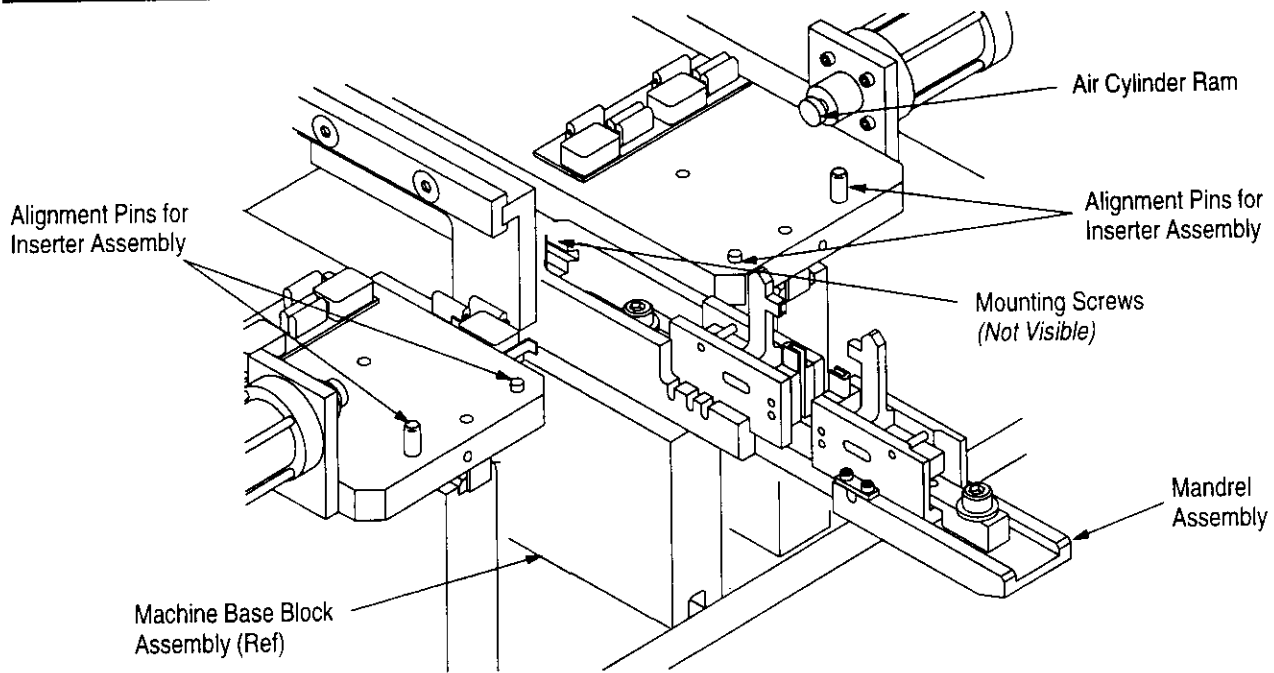

Figure 2
3.1. Mandrel Assembly (Figure 2)
3.2. Inserter Assemblies (Figures 2 and 3)